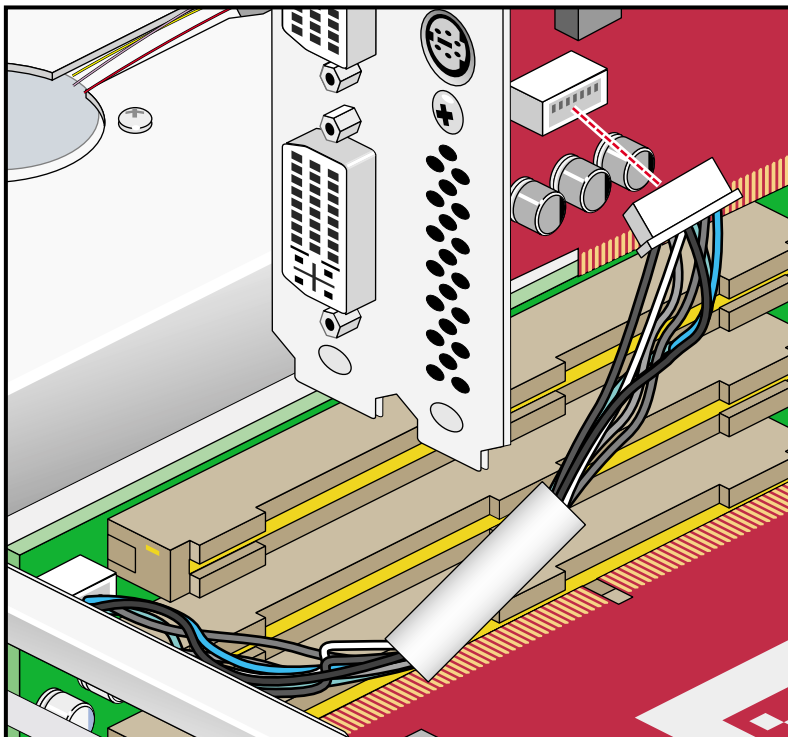

Figure 4-14 Synchronization Cable Connection on Underside of Graphics Board
12. Carefully rotate the board over and disconnect the 7-pin keyed synchronization cable from the bottom of the graphics board (it attaches the graphics card assembly to the PCI riser board). See Figure 4-14 on page 94.
2. Gently insert the 7-pin synchronization cable into the connector on the bottom of the replacement graphics card (see Figure 4-14). The connector is keyed and will only insert in the proper orientation. You should hear or feel a slight snap as the connector is seated.